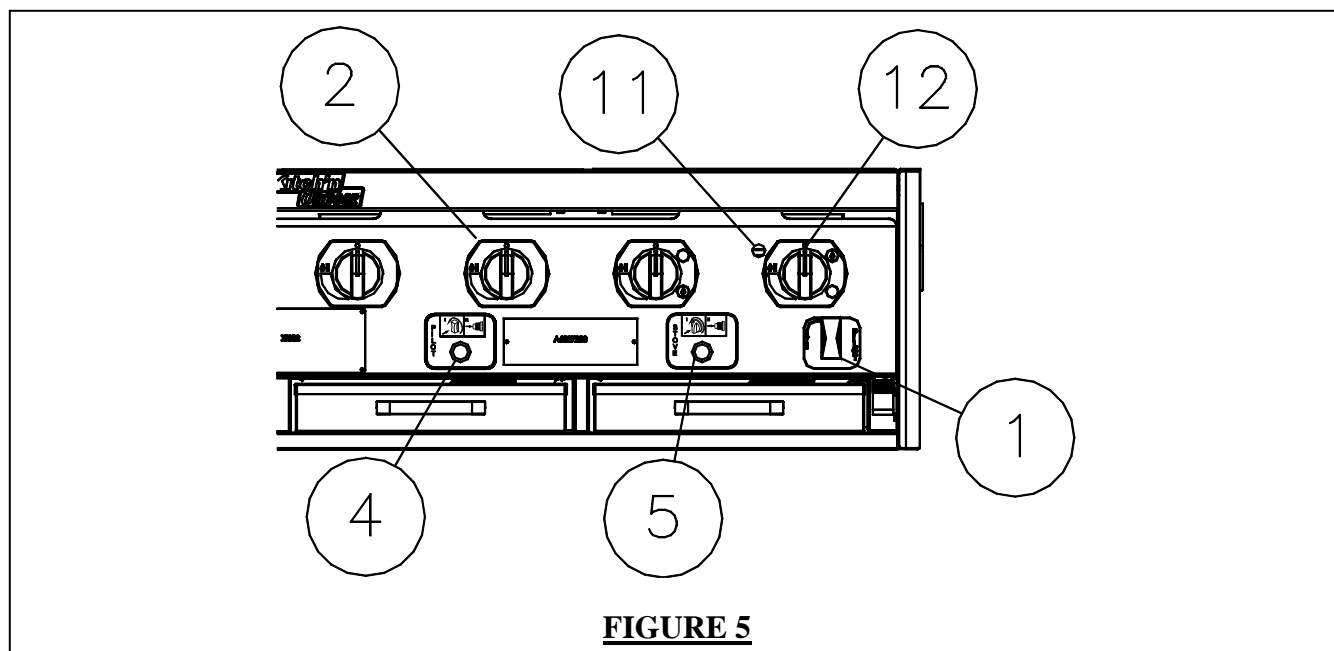

FIGURE 5
Prior to lighting the unit, make sure all gas valve knobs are in the “Off” position, proceed when all gas valves are closed. If the side burners are covered to protect against the weather, you must uncover the side burners prior to lighting. Refer to diagram 2 and figure 5 for the following steps.
- B. Turn the desired side burner valve (12), see figure 5, to the “On” (I) position. There will be a circled flame that denotes which valve controls the front or rear side burner.